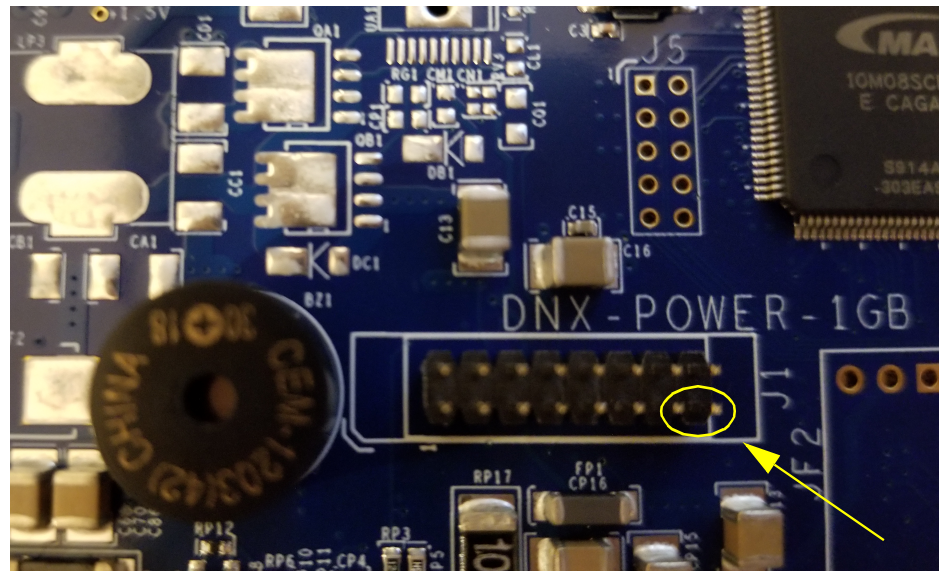

Figure 4-17 NVRAM Protection Jumper Pins
STEP 5: Locate the J1 jumper block on the DNx-POWER-1GB board, and insert a jumper between pins 13 and 15. Refer to **Figure 4-17** for pin locations.
Refer to **Figure 4-17** for pin locations.